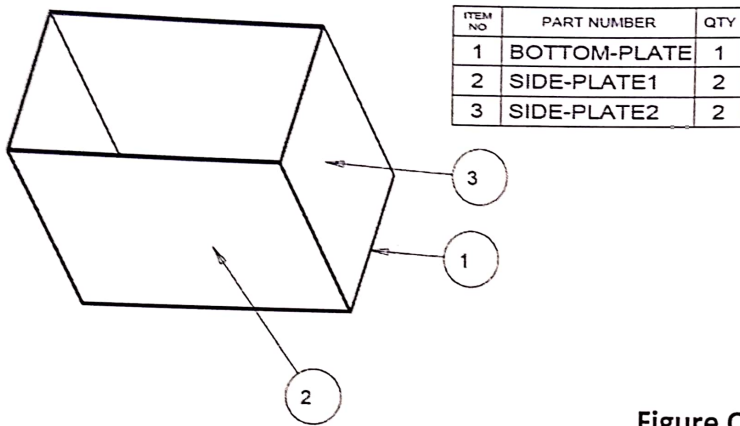

Figure Q3: Model of an Open Box
- c) Without recourse to the actual dimensions of the component parts, **briefly** describe the steps you will follow to **model** and **assemble** the open box shown in Figure Q3 using PTC Creo